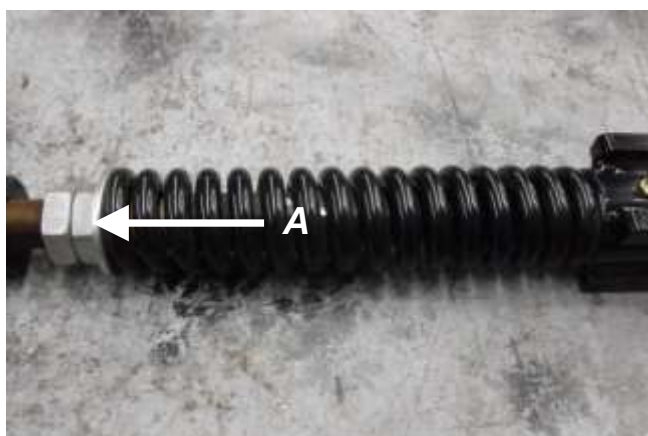

Figure 17A
- ⚠ If the disks on the ground following wings aren't at the same depth as the fix wing, you can increase the pressure with the spring [figure 17A, A]. You untighten the first nut and you apply pressure with the second nut. From the factory the disk are set to: 26.5 cm / 10½".